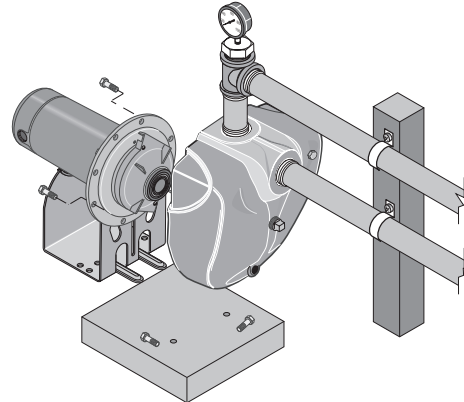

Figure 10: Slide Motor
Pump and piping need not be disconnected to repair or replace motor or seal (Figure 10). If motor is replaced, replace the shaft seal (see Parts List). Keep one on hand for future use.
3. Remove the cap screws holding the seal plate to the pump body. Pull the motor assembly and seal plate away from the pump body (Figure 10) and CAREFULLY remove gasket.